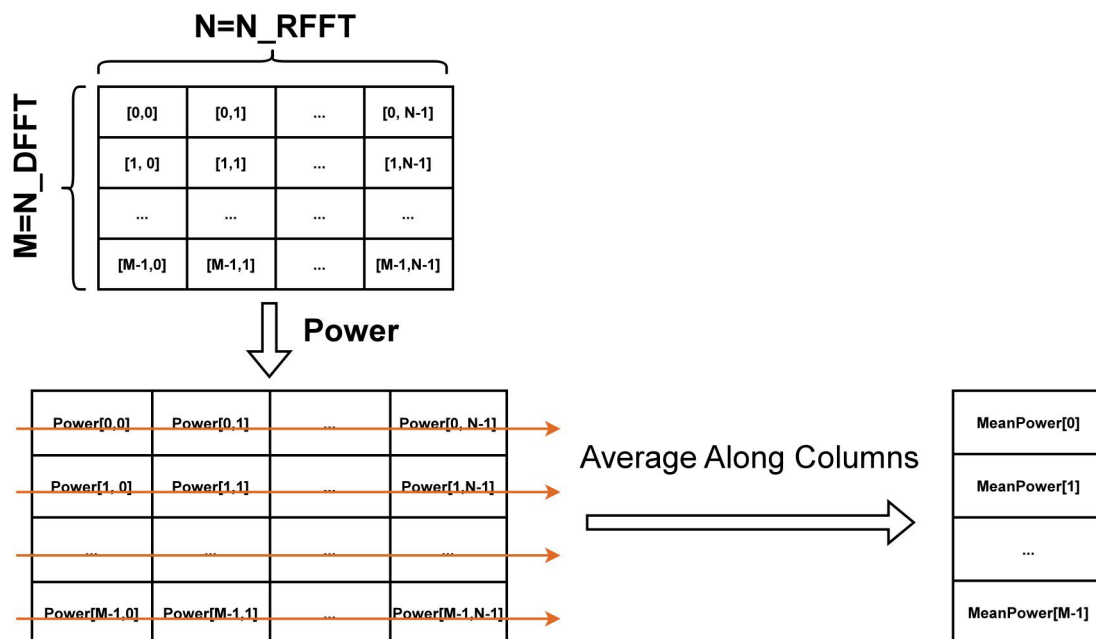

Figure 2-37 Doppler-Spectrum Calculation
5、 Doppler Spectrum: Calculates the power of each range-Doppler bin in the DataCube and averages the power of each Doppler bin along the range dimension, as shown in Figure 2-37.